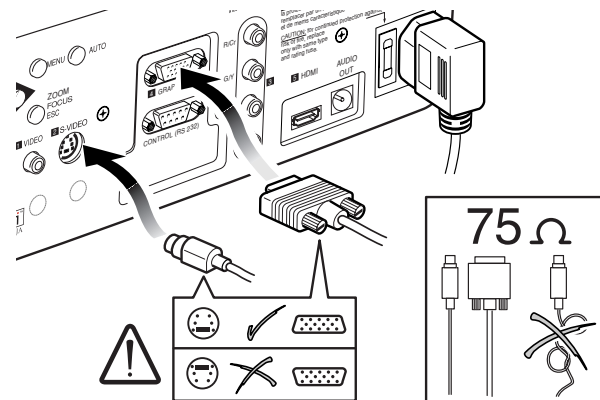

Fig. 16
- With exception of coaxial RCA/Phono type connectors, always double-check that the plug is inserted the correct way round to avoid damaging the plugs or the sockets on the projector (Fig. 16).